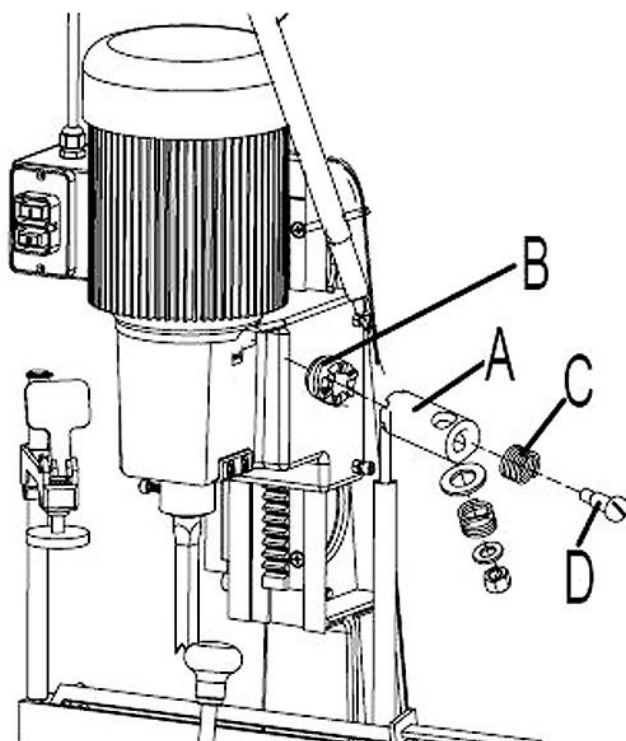

Fig 2
1. Assemble hub of handle assembly (A) Fig. 2, to end of pinion shaft (B) and fasten handle to pinion shaft using special screw (C) and spring (D).